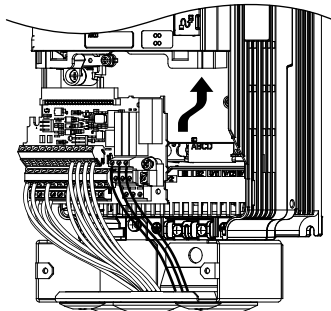

Figure 7.47 Install the Terminal Board
1. After wiring the main circuit, connect the terminal block to the drive as shown in Figure 7.47. Use the installation screw to fasten the terminal block into place.